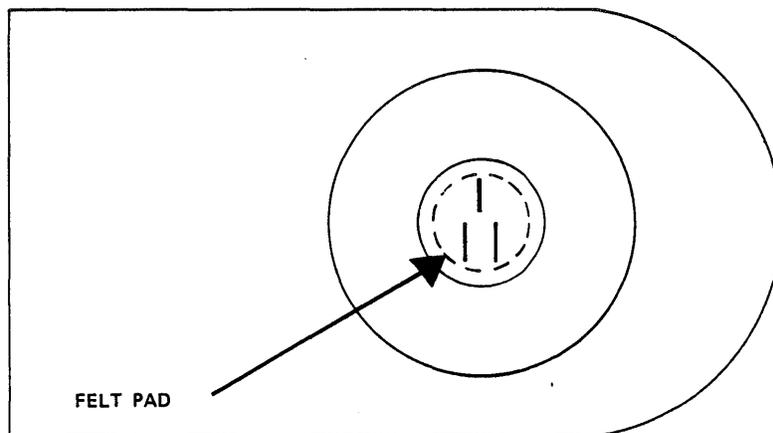

Figure 5-28
5.13.9 Visually align the felt pad on the arm with the head (see Figure 5-28).
5.13.12 Visually check to ensure that the felt pad clears the disk drive when the front door is opened (see Figure 5-28).
- 5.14.6 With a Phillips screwdriver, reinstall the three (3) mounting screws and their flat washers that attach the Module Assembly to the chassis (see Figure 5-28).